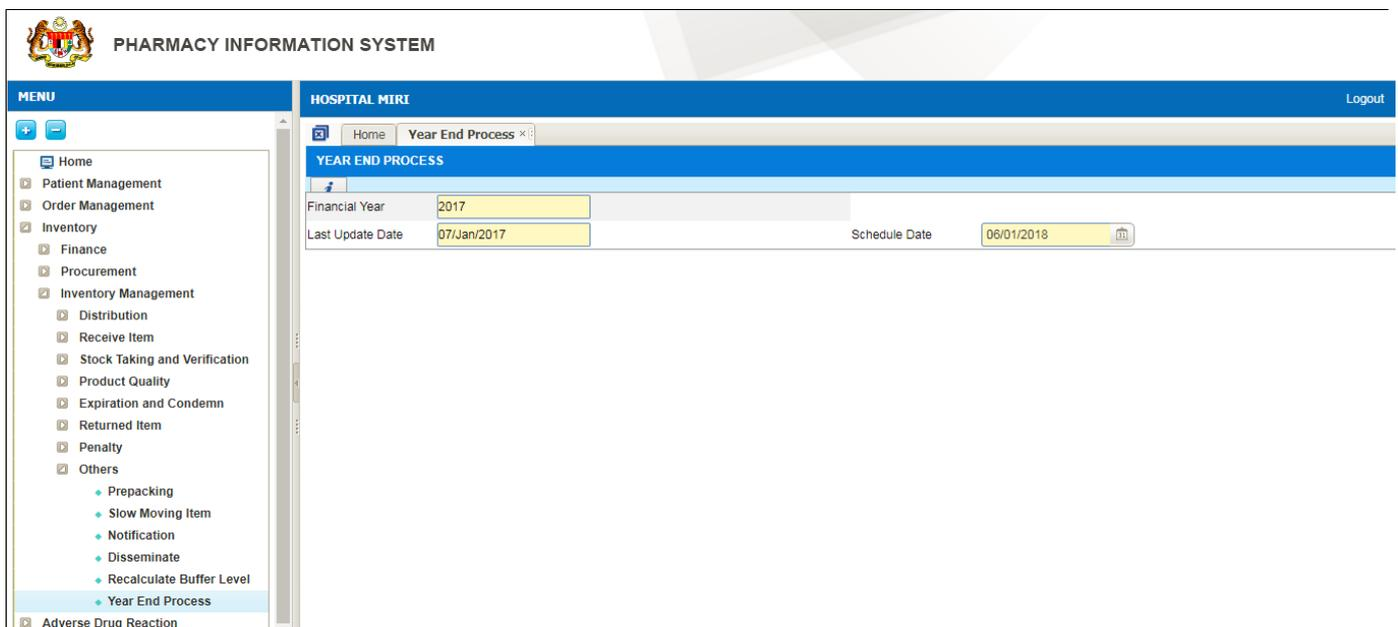

Figure 3.1-3 Year End Process done for the current financial year
- Click Yes and the Year End Process transaction is successfully done as displayed in Figure 3.1-3.